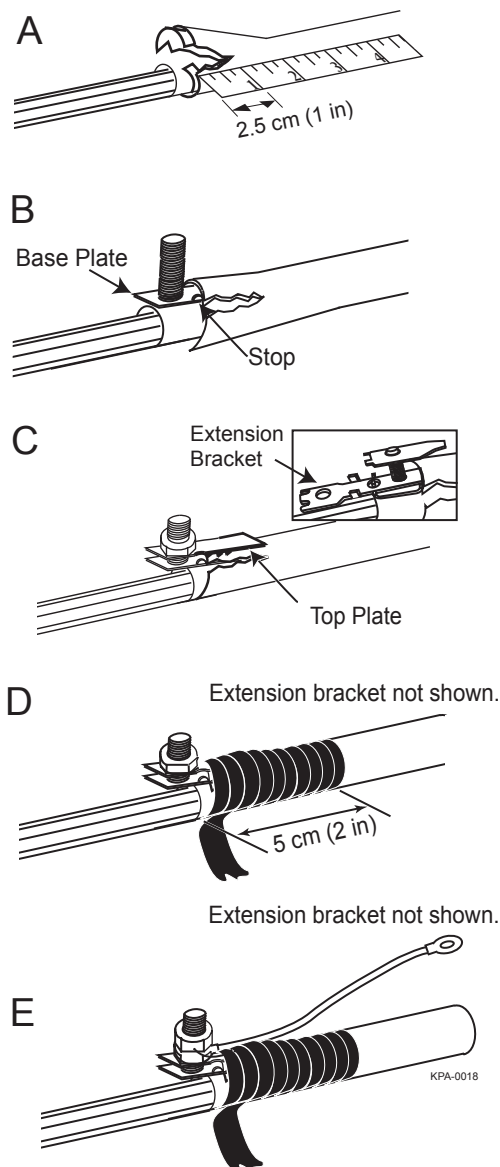

Figure 5
- Step 1:** Cut a slit into opposite sides of the outer sheath and armor about 2.5 cm (1 inch) from the end of the sheath (Figure 5). To do this, score the armor with a cable knife (being careful not to damage the inner sheath) and split the sheath by flexing it.